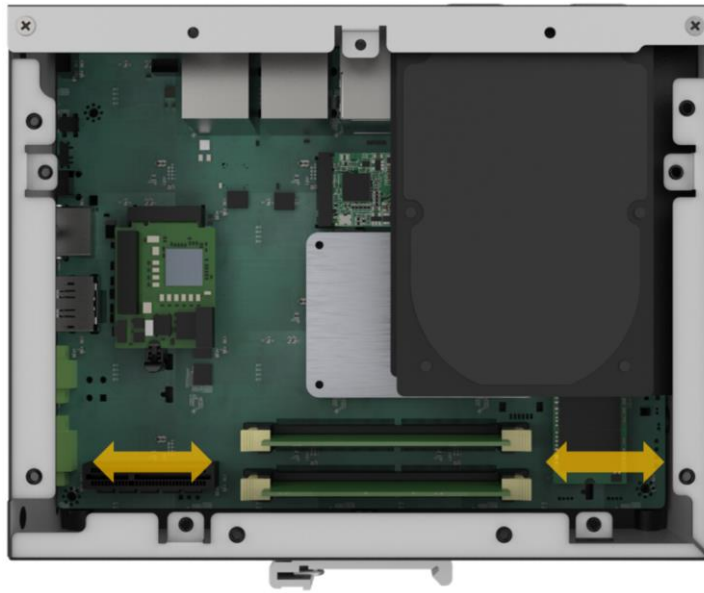

Figure 3-3: Memory Installation
Step 3: Once aligned, press down until the memory module is properly seated and the two handles fully clip into place (Figure 3-3).